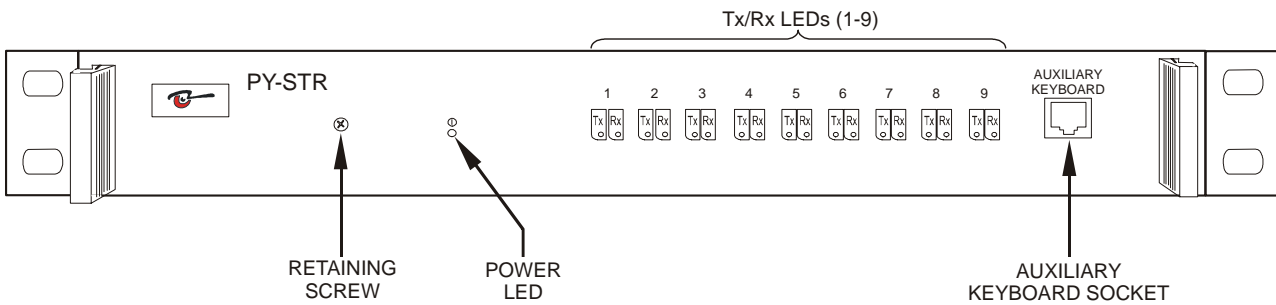

Figure 2 - Front Panel
1. Using an appropriate screwdriver, remove the retaining screw from the front panel—see Figure 2.